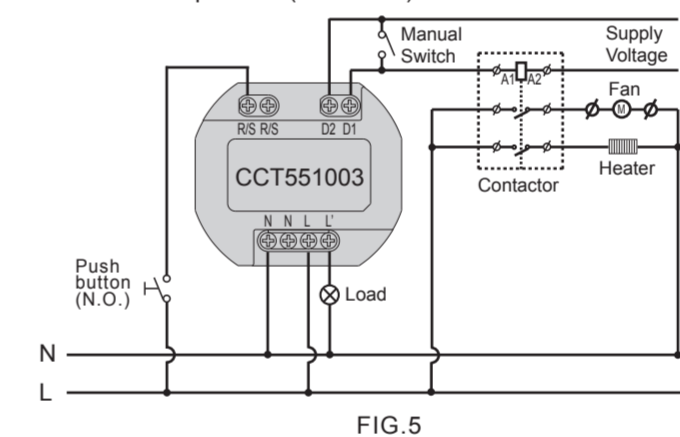
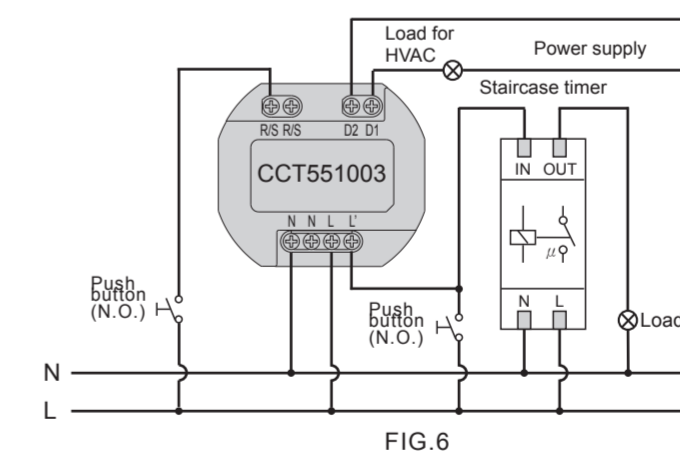
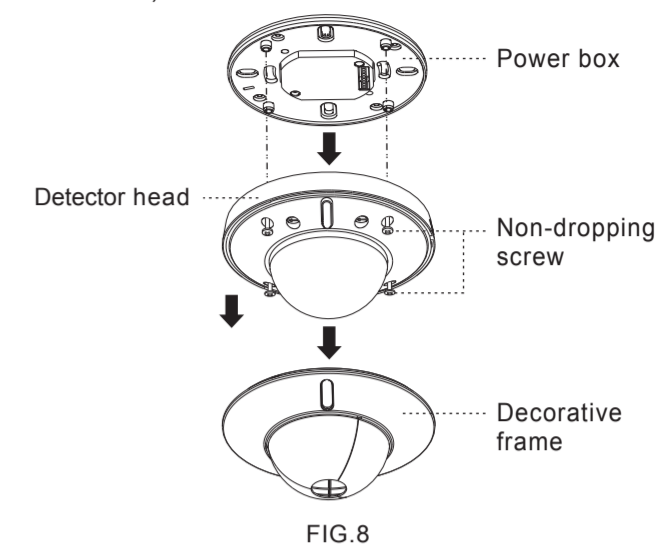
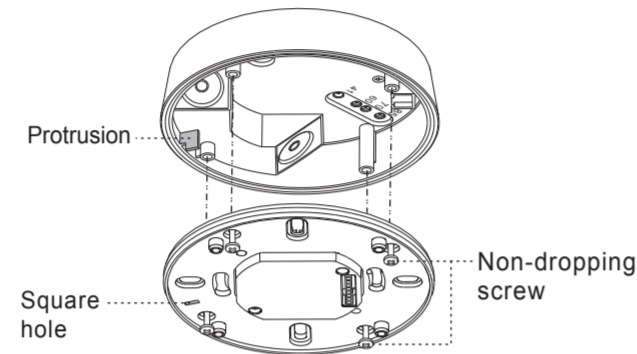

FIG.5
FIG.6
FIG.8
FIG.18
3.3.1 Normal operation (See FIG.5)
3.3.2 Staircase timer switch controlled by one detector (Time should be set to $\sqrt{3}$ L, see FIG.6)
3.4.1.1 Take off decorative frame of the detector, then take the detector head apart from power box by unscrew its 4pcs non-dropping screws (See FIG.8).
3.4.2.3 Please refer to illustration of FIG.5 - FIG.6 for correct wiring and then screw the Power box cap tightly.
3.4.3.5 Refer to wiring diagrams for correct wiring connection (See FIG.5 - FIG.6). There is a square hole in the fixing plate, when you put the fixing plate into the junction box, please fit the fillister to the junction box's protrusion (See FIG.18), then fix the detector head on the power box following FIG.8 and assemble them with the attached 4pcs non-dropping screws.